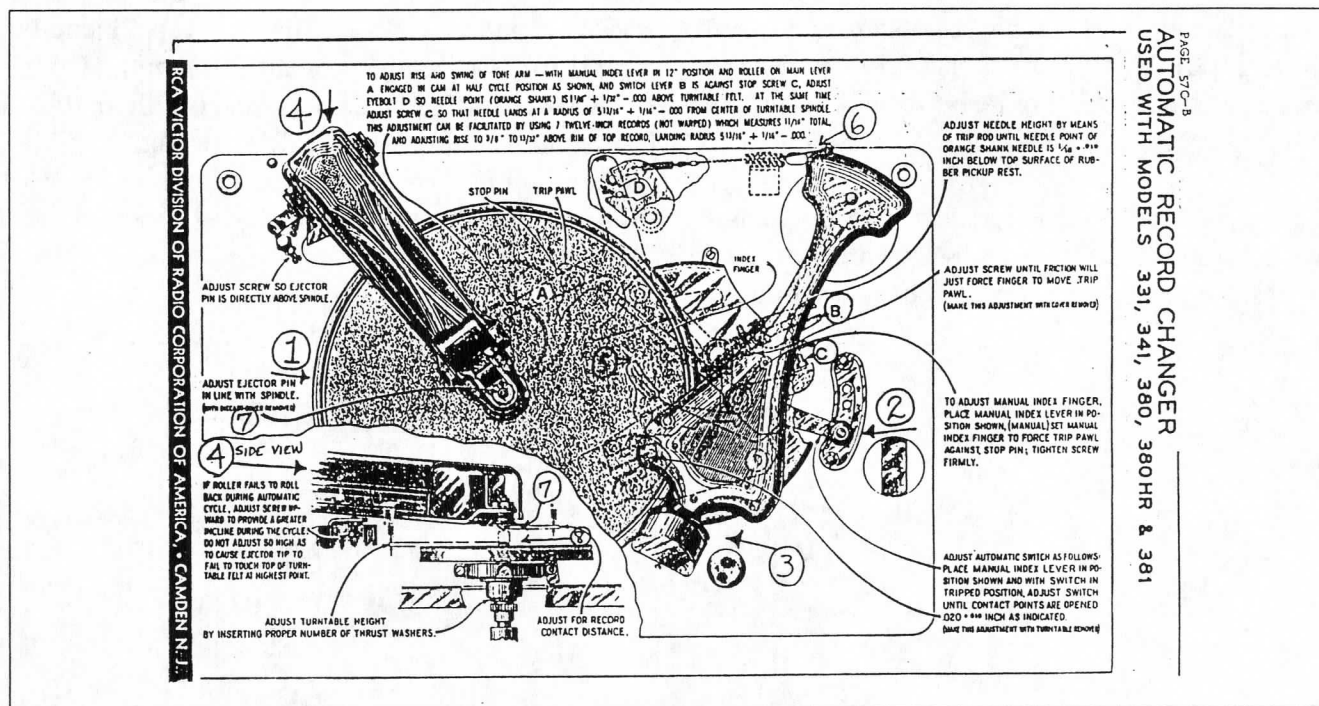

Figure 2. From Automatic Record Changers and Recorders; Rider 1941
it's usual cycle of ejecting the record from the turntable without stalling. Even the tripping mechanism seemed to work okay. The selector lever (see figure 2, number 2) must be set to the correct size record when playing in the automatic mode. The changer has one unusual feature, when set in the "manual" position, unlike most changers which disengage their tripping mechanism at the end of the record, this setting throws the ratchet (5) and the line switch (6) into service: when the tone arm reaches its run-off eccentric groove at the end of the record, the arm swings to-and-fro, engaging the ratchet which trips the AC line switch thus shutting off the motor. Once the arm is placed back in the resting position, the motor is reactivated automatically for the next record. This is a valuable feature for those who don't want to subject their fine records to the changer mechanism—which can be quite hard on them.. The changer also plays the 1931 RCA 33 1/3 discs in addition to the conventional 78 RPMs.